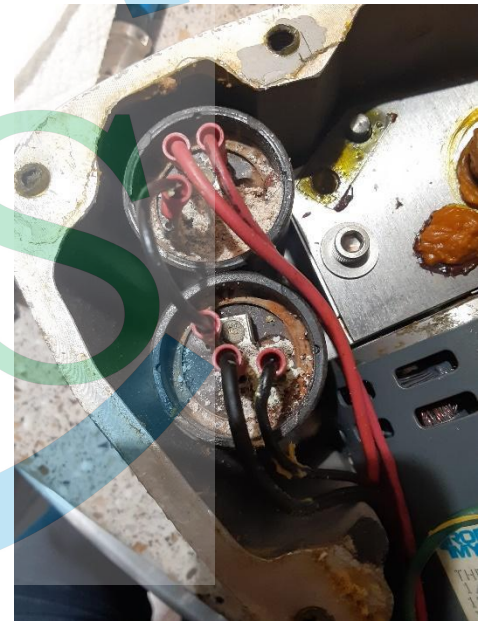

Figure 7 - Capacitors as found in motion unit
- the capacitor terminals were corroded to the point of having become separated from the capacitor bodies (Figure 7);